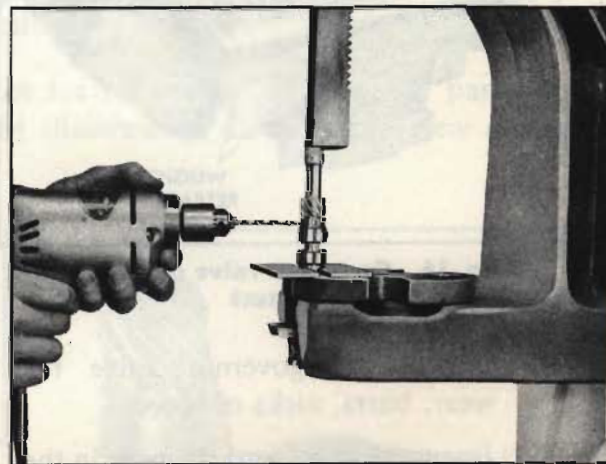

Fig. 19. Drilling new pin hole
4. To install the split pin retainer, carefully locate hole position 90° from the existing hole and prick punch. Using a #24 (.152) drill, bore a hole through the sleeve and gear (Fig. 19).